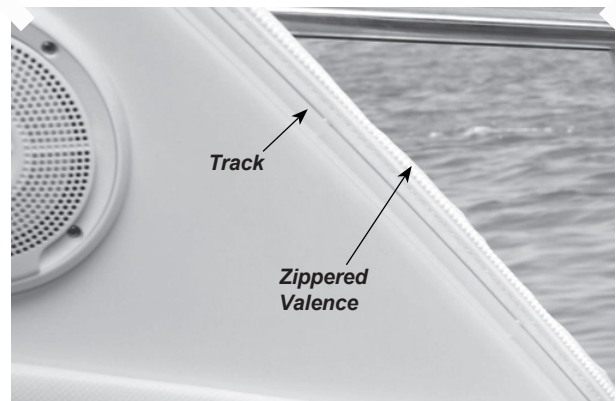

Figure O13: Side Curtain Valance
- 2) Valances, small areas of canvas curtain, are used to attach the side curtains to the boat. The valances slide through a track mounted on the hard top. The side curtains are then attached to the valances using zippers. See Figure O13.